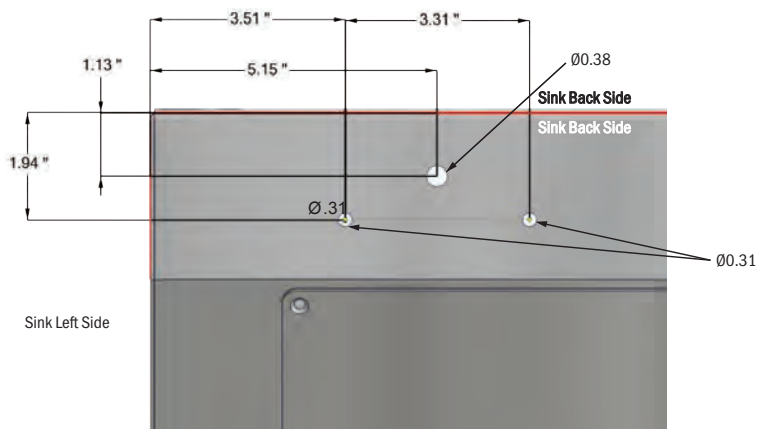

Fig. 31 - Drill Locations on Sink Top
1. To mount the timer housing on the sink top, drill three (3) holes using the hole dimension sizes and locations as shown in the illustration (below). Two (2) holes are for mounting the timer housing, one (1) for threading the three (3) flow-switch timer wires to the top side for connection to the timer readout.
3. Mount the timer housing to the top of the sink in the 0.31" diameter drilled holes (Fig 31). Mounting studs (0.25" diameter) are provided on the housing. Secure to sink top with the provided hex nuts.